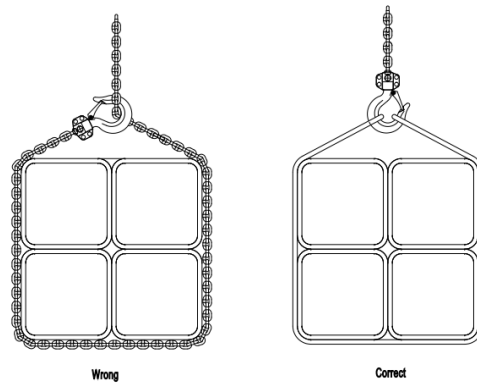

Figure 10
- When lifting loads, hook the load with slings. **Do not use the lever hoist chain as a sling** (Figure 10).